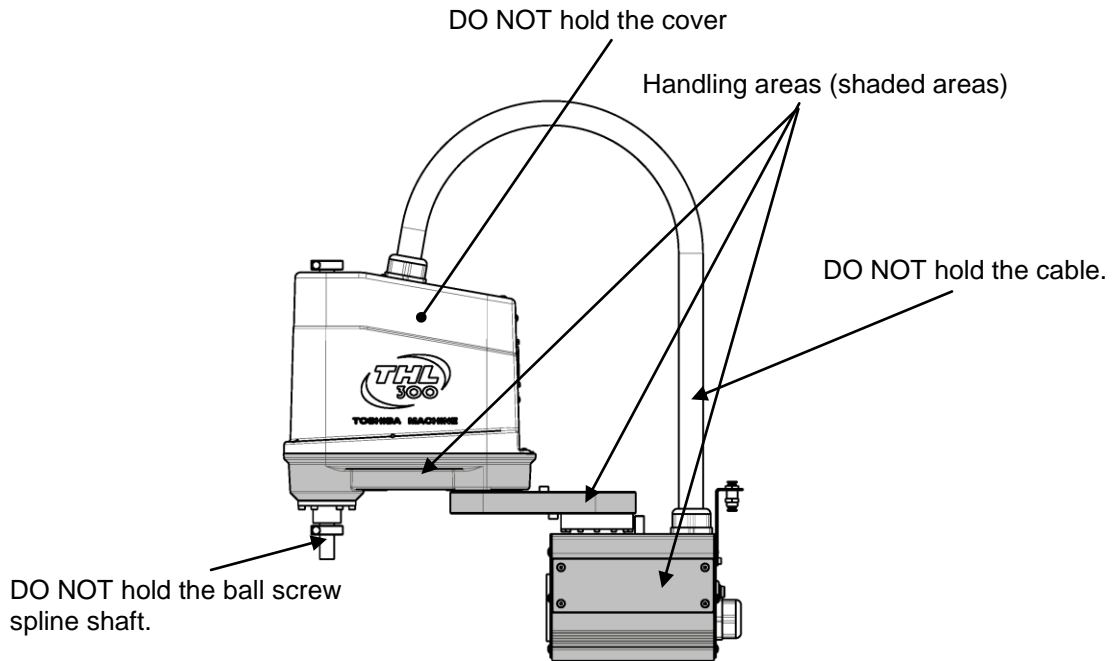

Fig. 4.6 Robot Handling Locations (THL300 and THL400)
- When lifting up the robot by workers, hold the locations (shaded areas) by hands as shown in Fig. 4.6. Holding the arm 2 cover, the cable and the ball screw spline shaft will apply excess force, possibly causing failure.
- The work should be performed by two (2) or more workers.